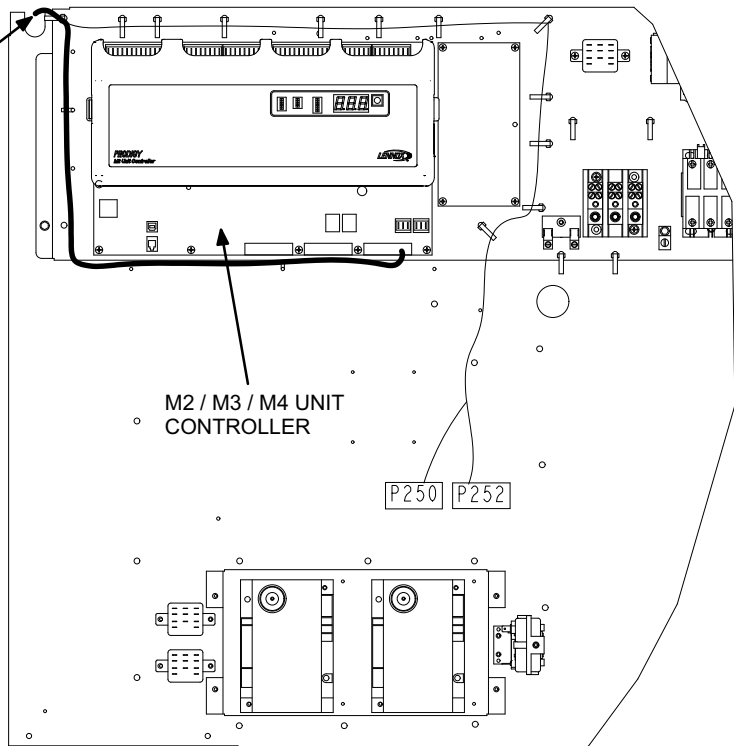
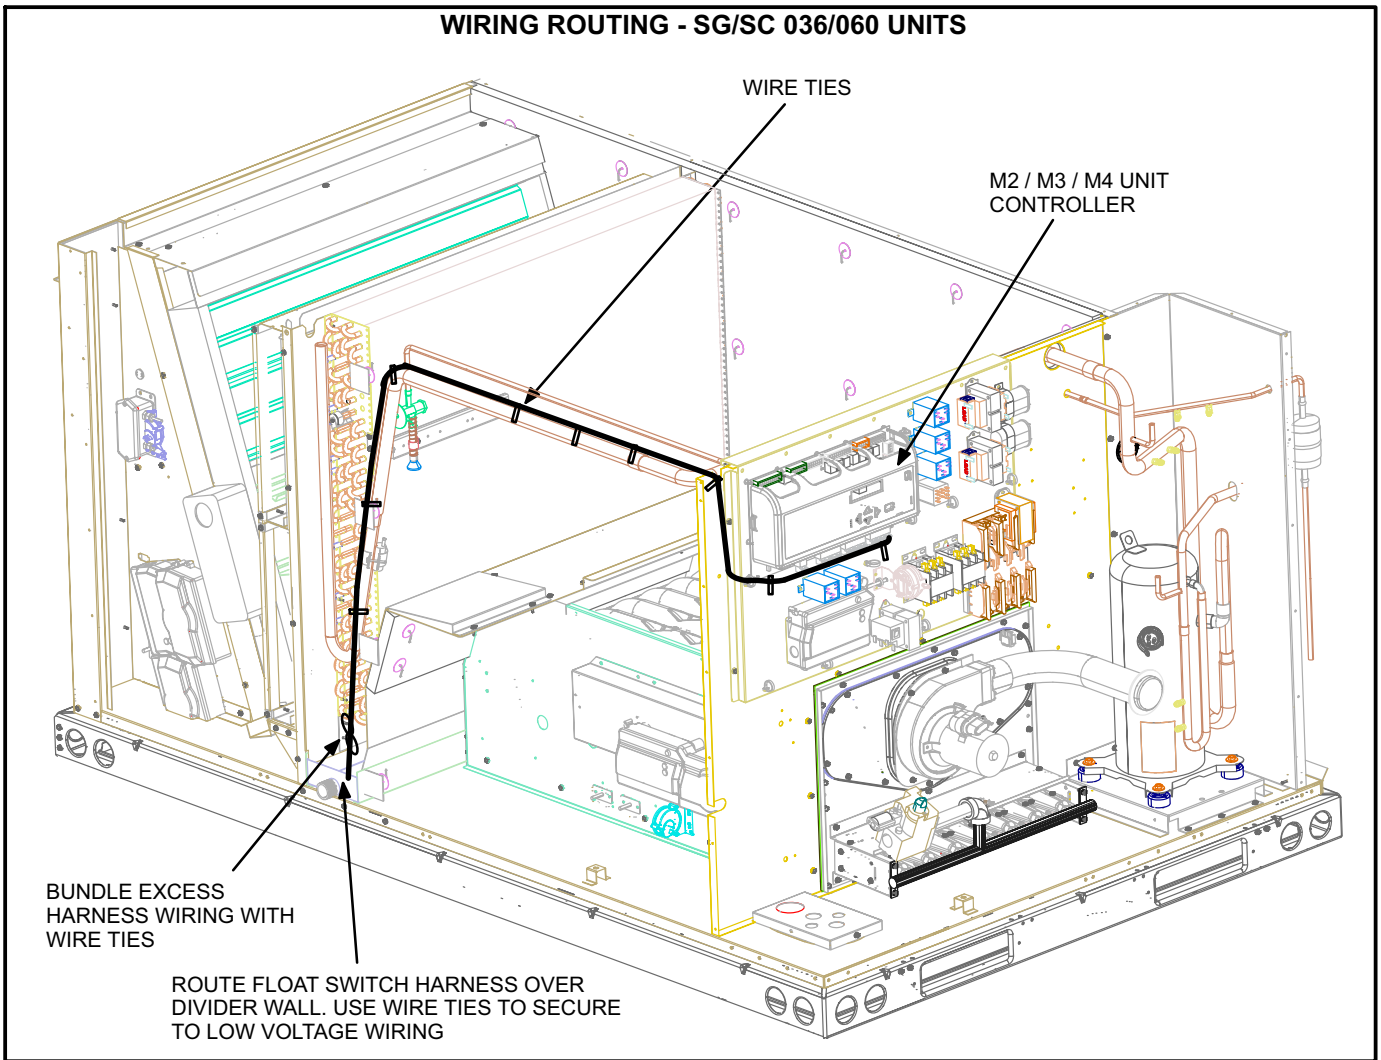
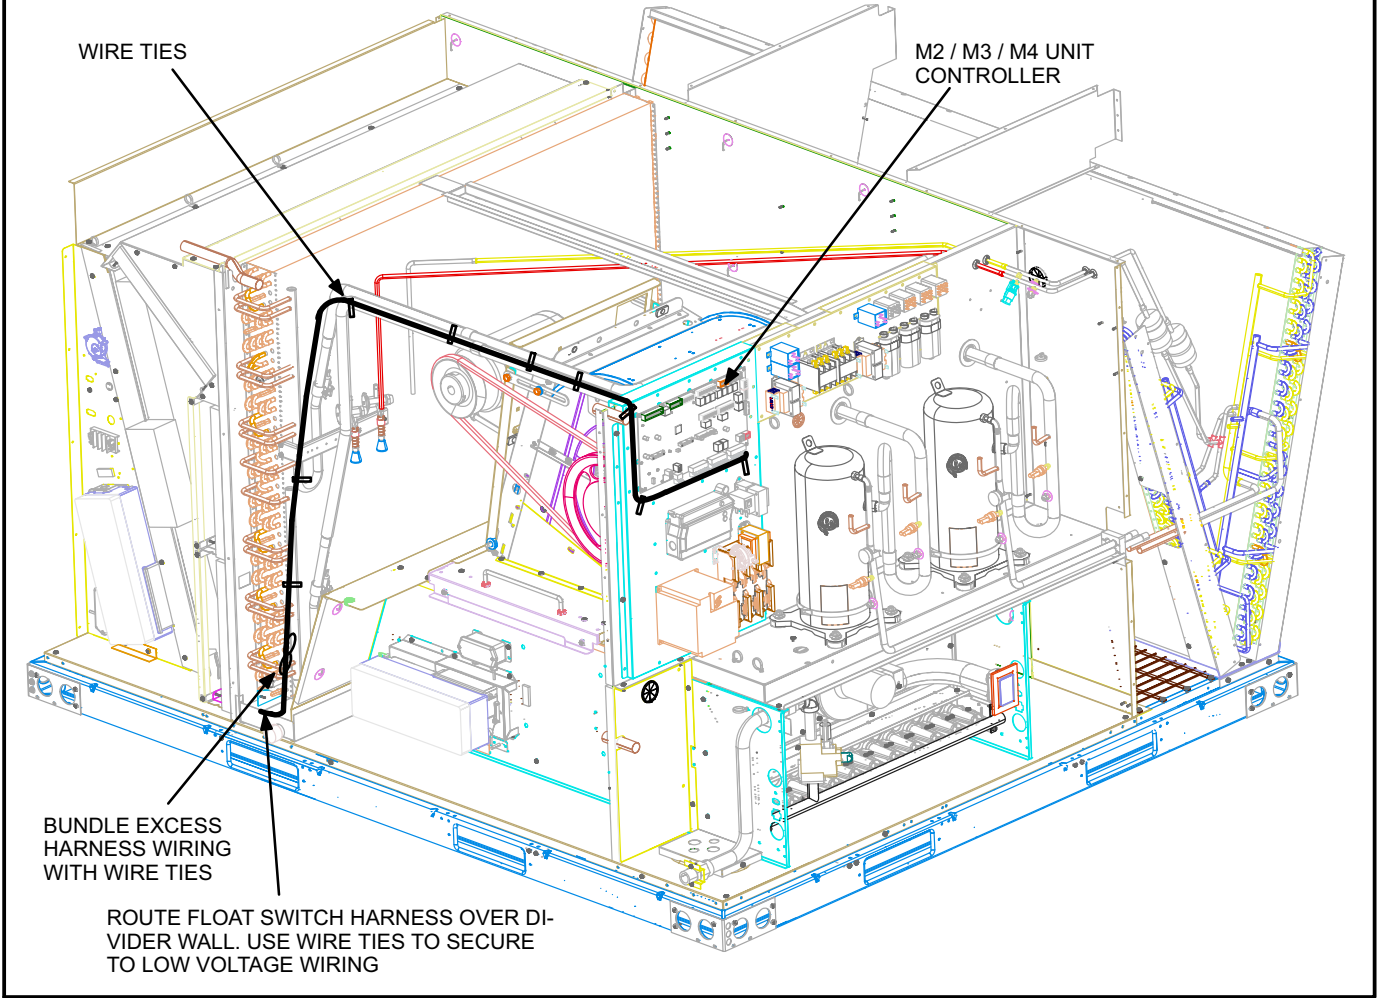

FIGURE 10
FIGURE 11
FIGURE 12
- 5- Route the other end of the harness to the float switch and secure with wire ties. See figure 8 for LGM/LCM/LGH/LCH036-072 units, figure 9 for LGM/LCM/LGH/LCH092-150 units, figure 10 for LGM/LCM/LGH/LCH156-360 & SG/SC 240, figure 11 for SG/SC 036/060 and figure 12 for SG/SC 120 units.